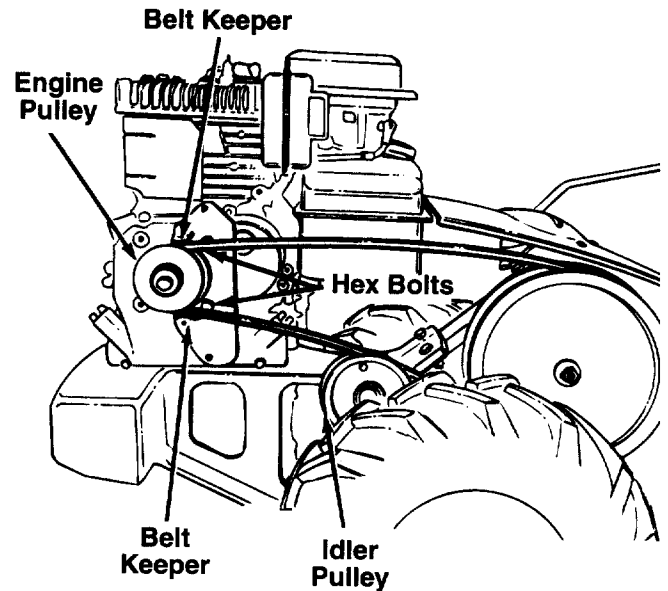

FIGURE 12.
3. Remove the belt keeper assembly located behind the engine pulley by removing two hex bolts and lock washers. See figure 12.
NOTE: Upon reassembly, make certain the belt is routed over the idler pulley and inside of belt keepers by engine pulley. See figure 12.